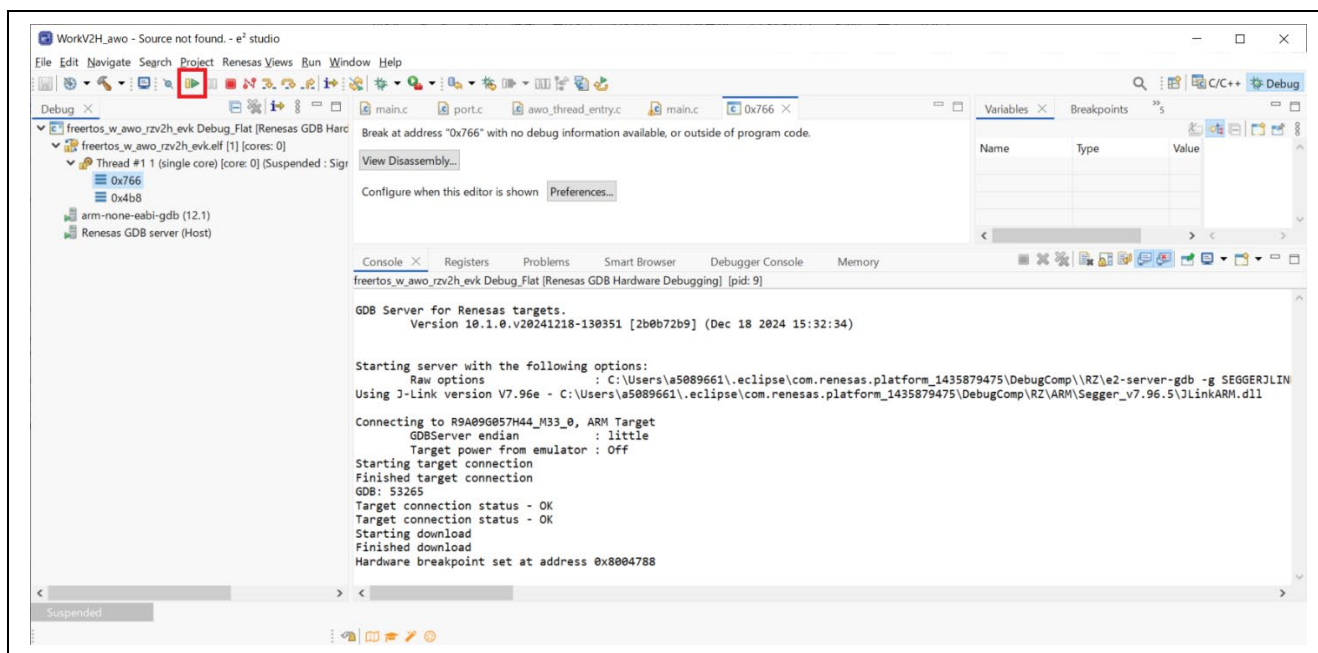

Figure 3-11. How to start to AWO Example Program (1)
4. When **Debug Perspective** is opened, Program Counter (PC) should be located as shown in Figure 3-11. Then, continue the program to push the button shown in Figure 3-11.